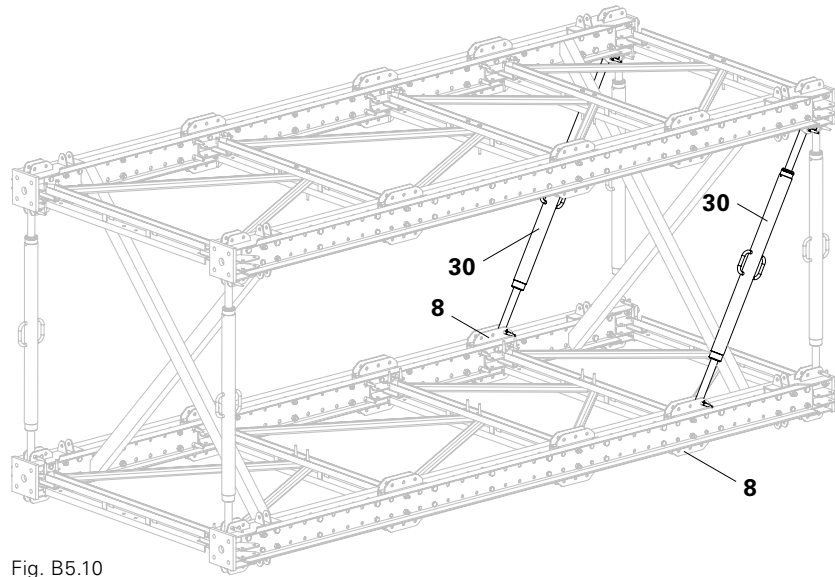

Fig. B5.10
1. Insert the appropriate Heavy-Duty Spindle SLS (30) into the connection of the Prop Base VST 48 (17).
2. Connect the Heavy-Duty Spindle SLS (30) to the Bracing Connector VST (8) and Prop Base VST 48 (17) by means of 1x Fitting Pin \varnothing 21 mm (9) each. (Fig. B5.10)